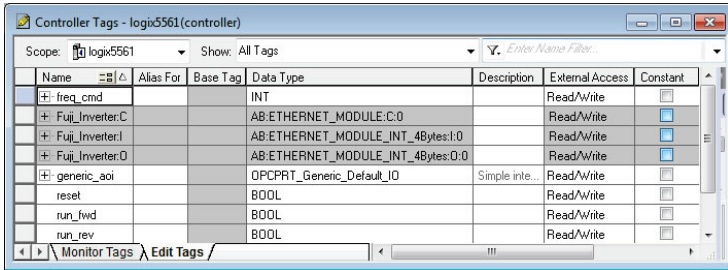

Figure 58: Create Generic Default AOI Tags
- 4) Create the tags in Figure 58.